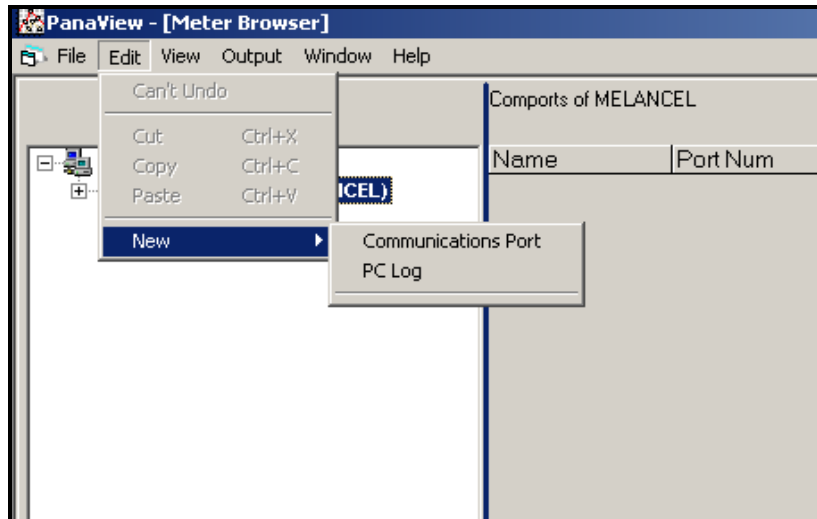

Figure C-1: Edit Menu
3. Click on the “*New*” menu option to select it, and a submenu opens with two choices on it (see Figure C-1 below).